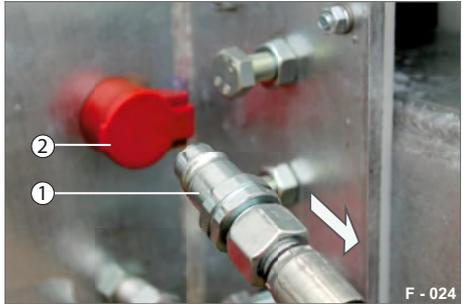

Fig. 47 Connecting hydraulic system
- ▶ Make sure that hydraulic line connection is clean (Fig. 47/1).